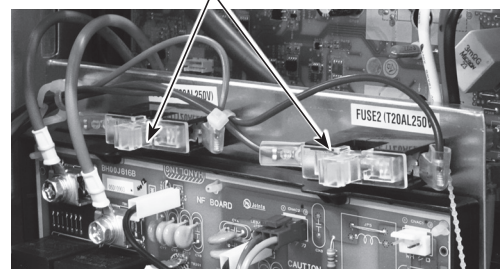

Figure 4
- (1) Remove the service panel. (See Photo 1)
- (2) Remove 2 screws (4 x 10) for cont base to remove the cont base. (See Figure 4)
- (4) Remove screws (3 x 12) for fuse holders to remove the fuse holders. (See Figure 4 and Photo 19)
<p>19. Removing the fuse holders</p> <ol style="list-style-type: none"> (1) Remove the service panel. (See Photo 1) (2) Remove 2 screws (4 x 10) for cont base to remove the cont base. (See Figure 4) (3) Remove the fuse covers. (See Figure 5) (4) Remove screws (3 x 12) for fuse holders to remove the fuse holders. (See Figure 5 and Photo 20) <p>Notes:</p> <ol style="list-style-type: none"> 1. Bracket, circuit board and other parts can get deformed when inserting and removing the fuse cover. 2. Remove the fuse cover in the way that surrounding parts will not be affected. 	<p>Photo 20</p>  <p>Figure 4</p>  <p>Figure 5</p>